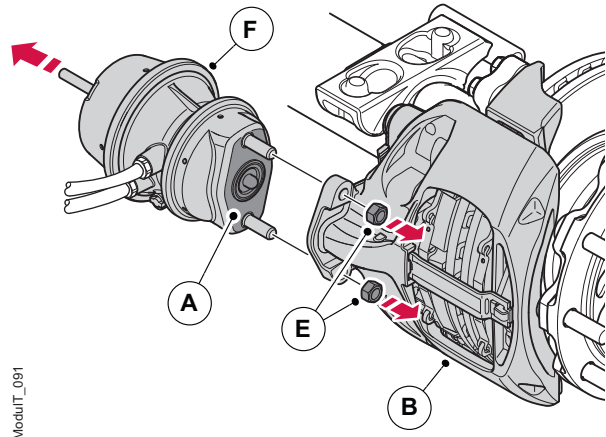

Figure 23. Removal of brake chamber items
3. If applicable ensure that the spring brake chamber (F) is fully disengaged and mechanically secured in the released position.
5. Remove the two nuts (E) holding the brake chamber from the calliper (B), see figure 23.